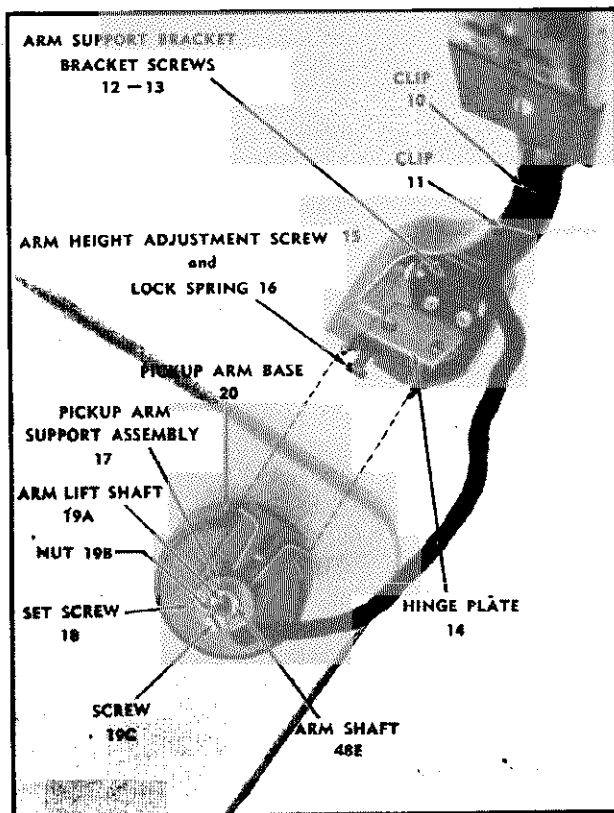

Figure 3. Pickup Arm Hinge Assembly for RC170
These two models are very similar. The differences are illustrated in Figures 3 and 4. To be certain which model changer you are servicing, look for the changer model number which appears on the underside of the changer mechanism.
Figures 3 and 4 show major differences between models RC170 and RC170A. In addition, differences occur in parts carrying reference numbers 49, 50 and 52 (see parts list).
9. ADJUSTMENT OF PICKUP ARM HEIGHT (See Figures 3 and 4)
Reference numbers 12, 14, 17, and 19 apply to RC 170 only; see Figs. 3 and 4 and note marked † in parts list.